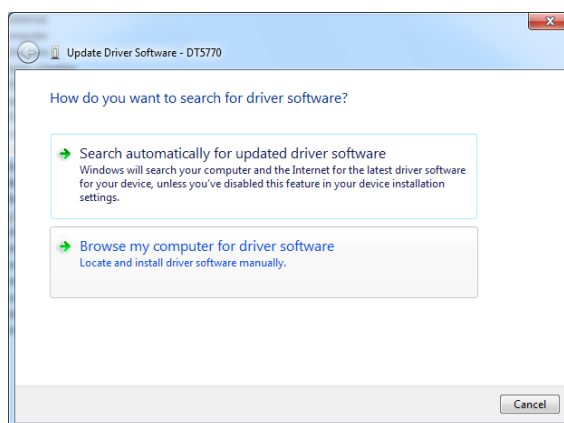

Fig. 10.2: Driver Software manual search and install selection
- 4.Select “Browse my computer for driver software” (see **Fig. 10.2**)